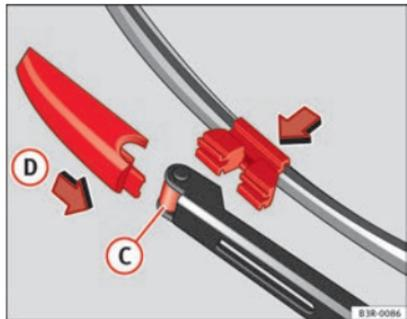

Fig. 175 Fitting the wiper blade
- Fit the new wiper blade into the mounting on the wiper arm \Rightarrow Fig. 175 (C).
- Slide the retainers on the wiper blade in direction (D) so that it clicks into place on the wiper arm.